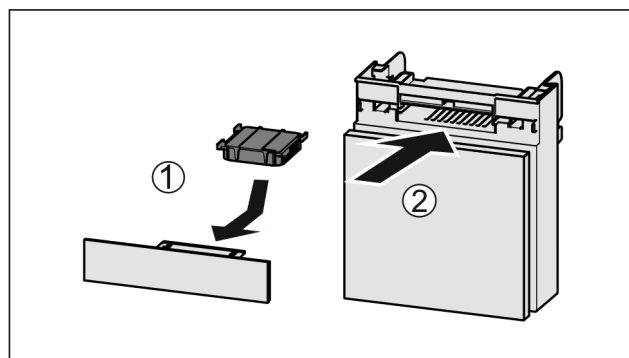

Fig. 255
- ▶ Insert the carbon filter as shown in the diagram Fig. 255 (1).
- ▶ Push the compartment in Fig. 255 (2).